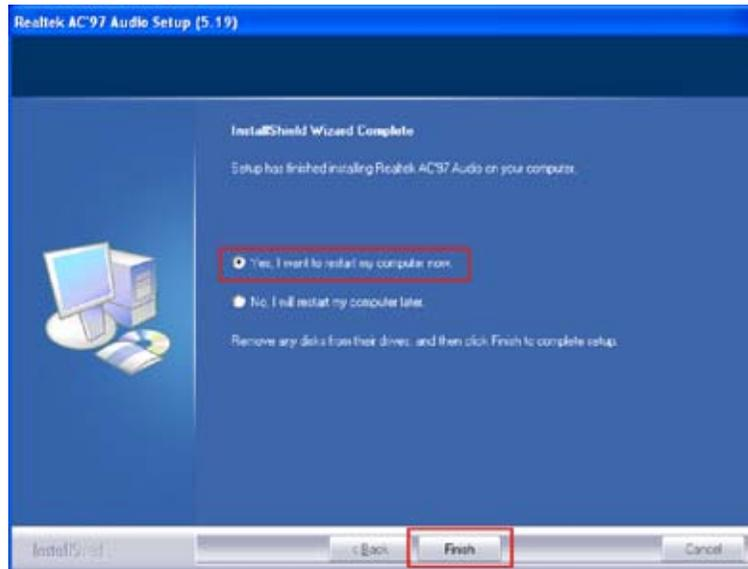

Figure 6-24: AC'97 Driver Installation Complete
Step 54: When the driver is installed, the driver installation finish screen in Figure 6-24 appears.